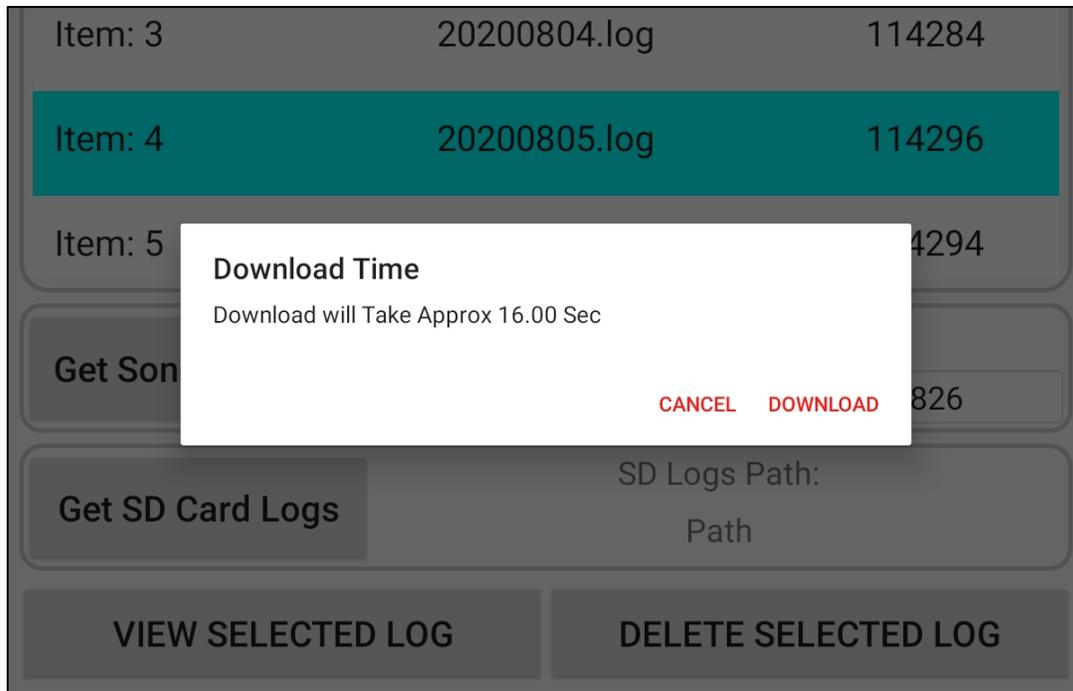

Figure 16: Download Time Dialog
- When downloading a log file from the SonoPro, the download time depends on the resolution of the log file (time interval in the log settings). For example, a file with a full day of data every minute can take up to 20 seconds to download to the tablet. The approximated time for download will be shown as in Figure 16. The user can then decide to download or cancel.